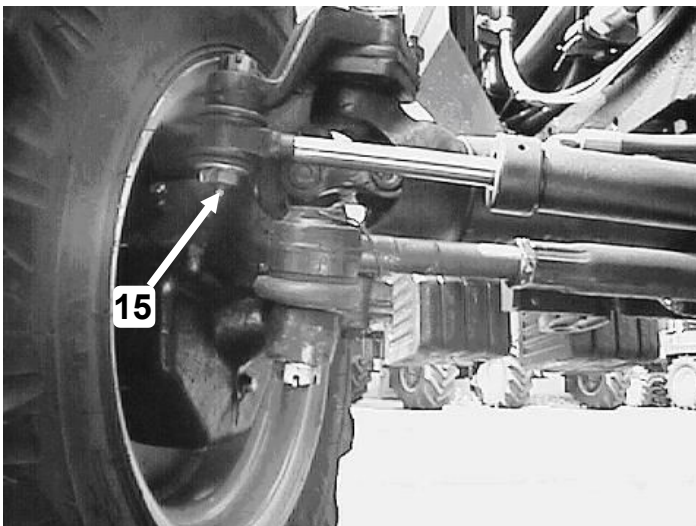
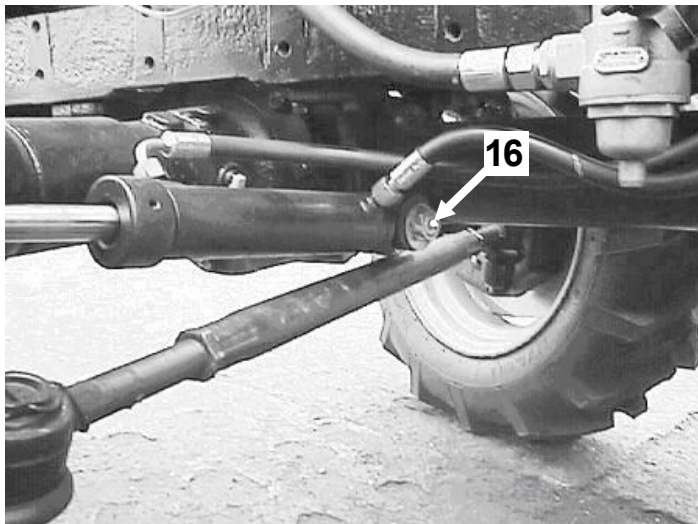

Fig. E-10 Nipple of the steering system cylinder bolt (15)
Fig. E-11 Nipple of the steering system cylinder bolt (16)
- power drive cylinder bolts (Fig. E-10, POS. 15; Fig. E-11, POS. 16)